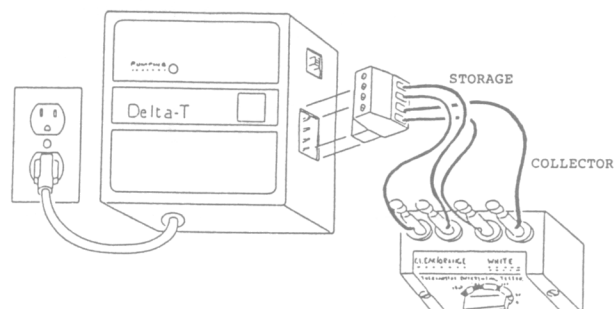

Fig 36- CONNECTION OF THE TDT-2 DIFFERENTIAL TEST UNIT
This test requires the use of the TDT-2 test set available from SUNSTRIP (refer to figure 36).
4. Plug the TDT-2 test set connector in the sensor connection plug of the differential controller. (Refer to figure 36).